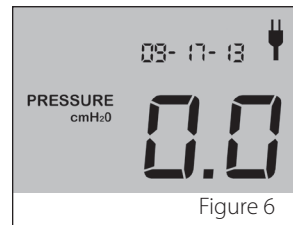

Figure 6
5. After about 10 seconds, the Z2 will enter standby mode. The display will read 0.0. (Figure 6)